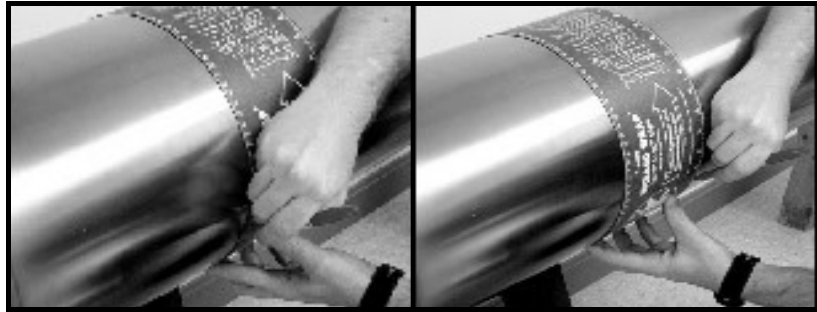

Figure 1-12: Marking Circumferential Lines on the Pipe
2. Tightly wrap the layout wrap once around the entire pipe and line up the edges. Using the wrap as a template guide for marks, mark scribe lines around the entire diameter of the pipe, as shown in Figure 1-12 below.